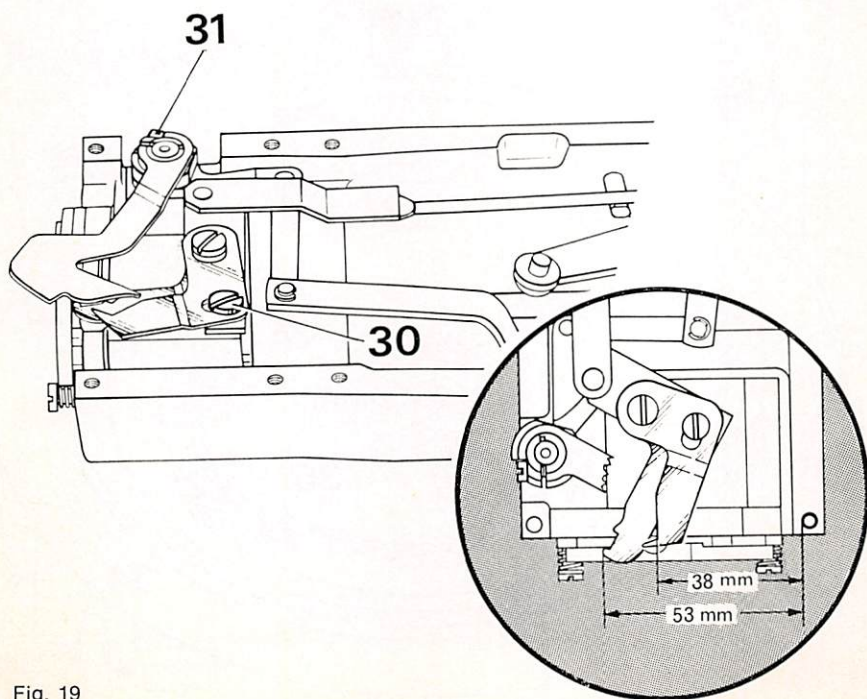

Fig. 19
- 19. Adjusting the bobbin thread puller and the movable knife (Fig. 19)**
- 19.4. Adjust the bobbin thread puller and the knife so that there is a clearance of 53 mm (2.09") between the left edge of the right screwhole on the needle plate and the tip of the bobbin thread puller. In addition, there should be a clearance of 38 mm (1.5") between the left edge of this hole and the cutting edge of the knife (see encircled view of Fig. 19).